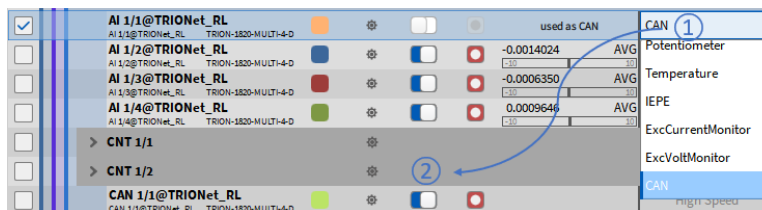

Fig. 7.189: Using the CAN port of a TRION-MULTI board
**Note:** When using the CAN port of a TRION(3)-18x0-MULTI or a TRION-2402—MULTI board, the CAN port is available on AI 1 of these boards. For accessing and using these CAN ports, you have to set the Input mode of AI 1 to CAN first and activate the dedicated CAN port second (see Fig. 7.189)